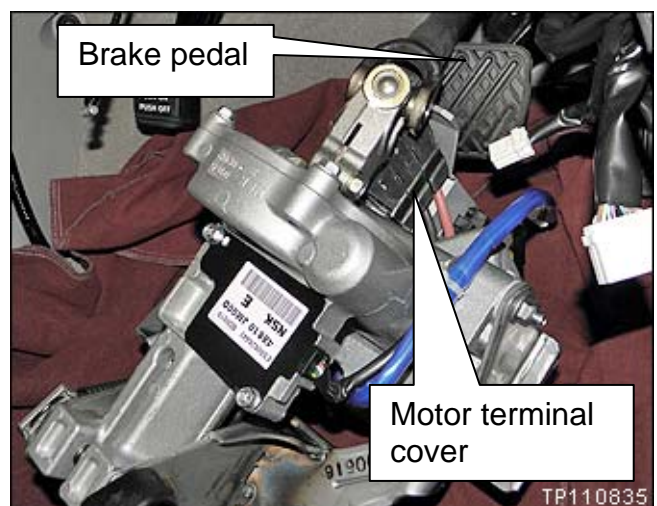

Figure 28
40. Locate and remove the plastic motor terminal cover shown in Figure 28.